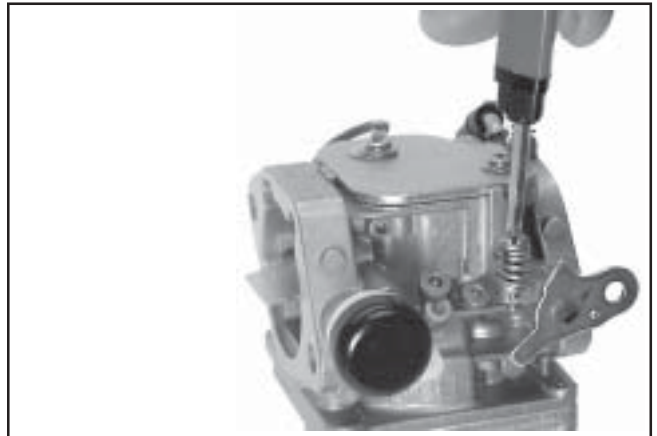

Figure 5-29. Installing Idle Speed Adjusting Screw and Spring.
- Place the shorter new spring onto the idle speed adjusting screw and install it into the carburetor. Thread in until **3 or 4 threads** are exposed, as an initial adjustment. See Figure 5-29.